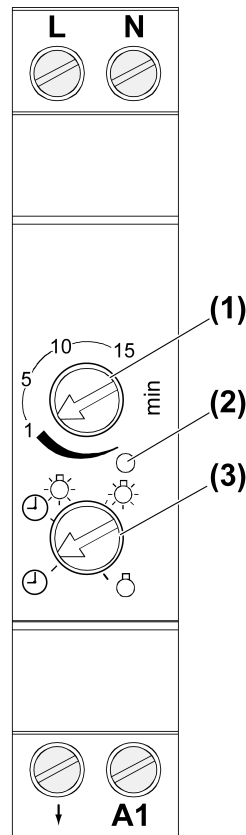

Figure 1: Automatic RMD
- Set run-on time. Turn adjuster (1) (Figure 1).
- Presetting the operating mode. Turn adjuster (3) (Figure 1).